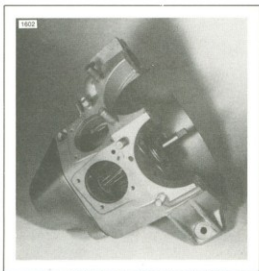

Figure 3-33. Line Reaming Cover Bushing
- To ream pinion shaft bushing, insert reamer pilot in right crankcase roller race as shown in Figure 3-33. Insert 9/16 in. PINION SHAFT COVER BUSHING REAMER, Part No. HD-94805-57, through pilot